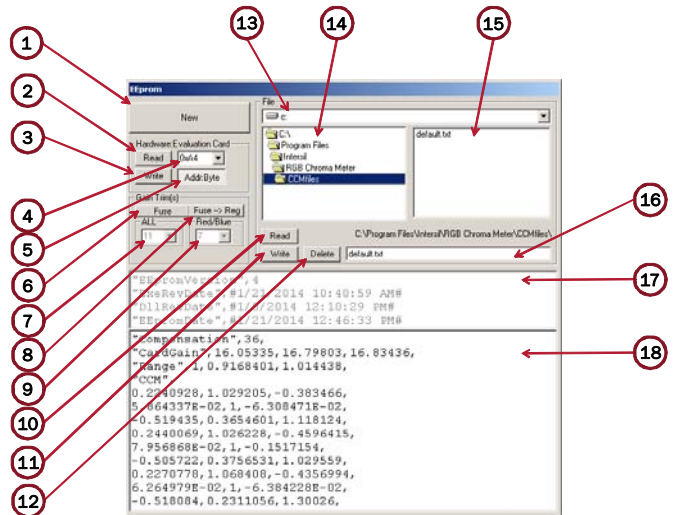

FIGURE 13. EEPROM LOAD CCM (CORRECTION COLOR MATRIX) FILE
2. If the cross-point does not display to match with the color temperature light bulb, the user needs to check x,y, and z values at left GUI panel. If x,y and z are all -1, Color Correction Matrix (CCM) did not load properly. The user should click on the "CCM" button at top left corner in the GUI Panel. Another pop-up window will display as shown in Figure 13.
5. User should copy the CCM, which is highlighted in Green color "EEPromVersion3" then paste into item 14 shown in Figure 13.
6. Click "Write" at item 3 then "Read" at Item 2 to configure the EEPROM on the evaluation board.
7. Click "Write" at item 7 then "Read" at item 6 to save CCM into file.